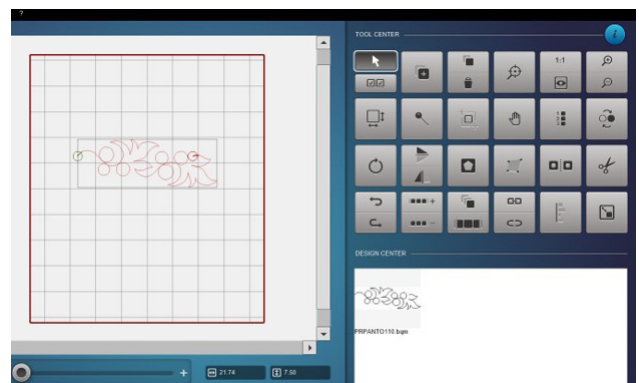

Fig. 64
3. Double-click or drag design PRPANTO110 onto the workspace. You can place it anywhere. (Fig. 64)